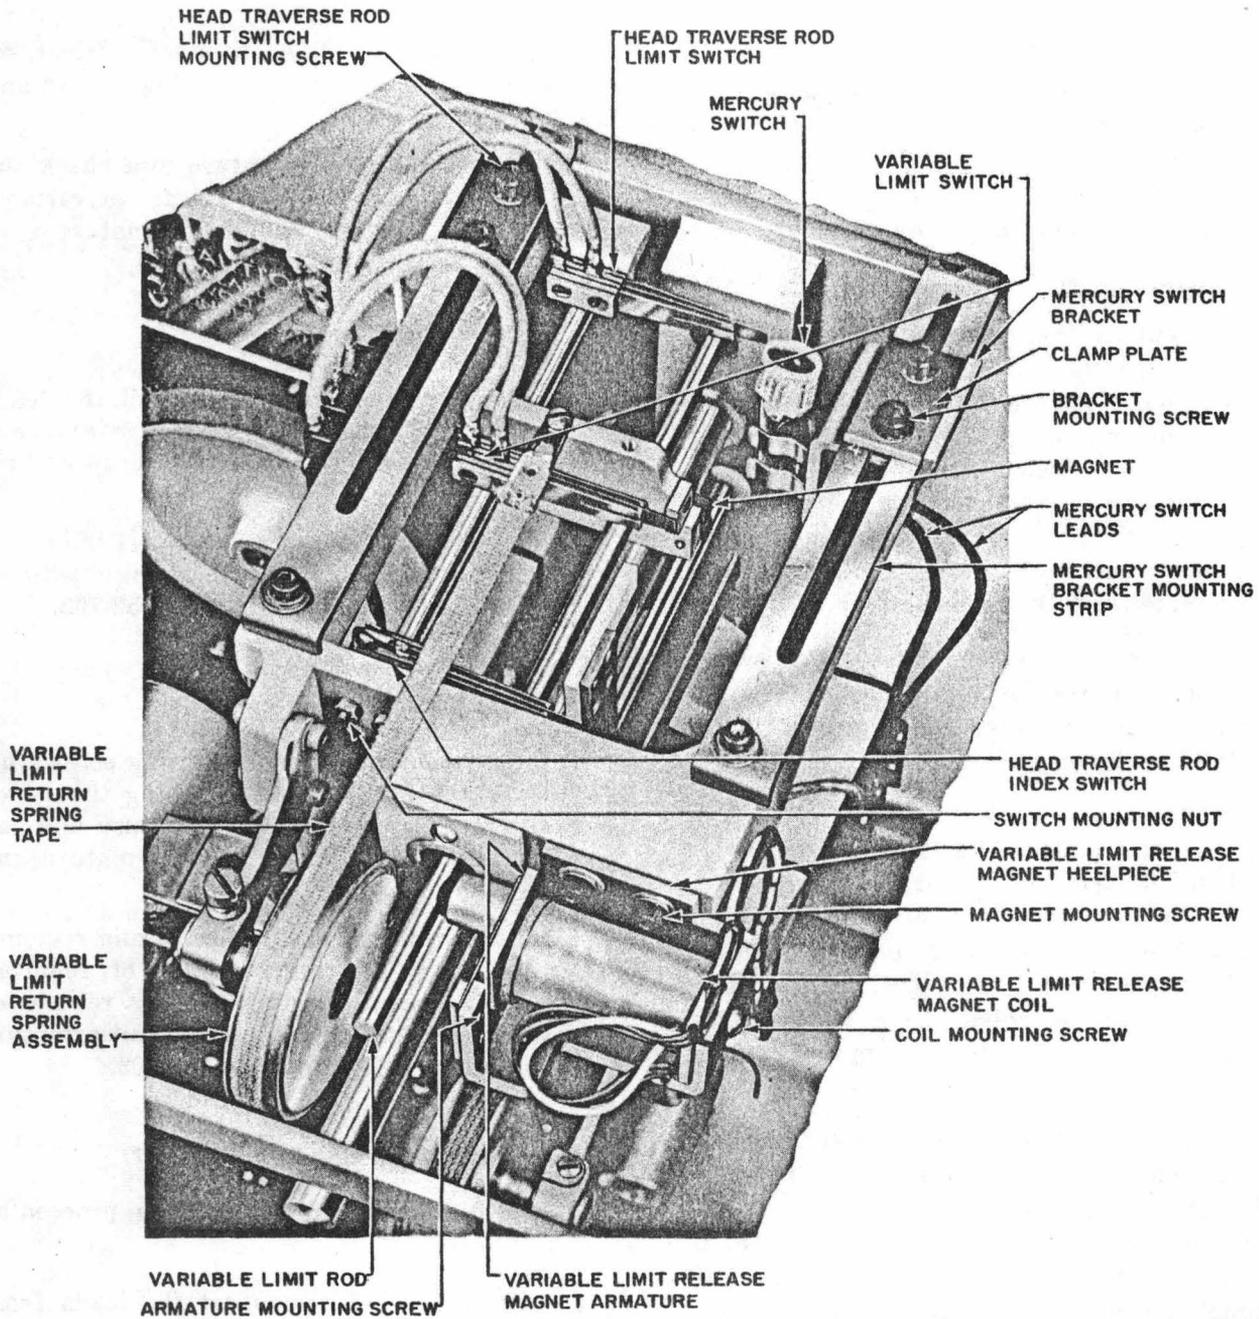

Fig. 17 - Recorder-Replicator Mechanism — Partial Top View
#### **Mercury Switch and Mounting Bracket (Fig. 17)**
#### **Variable Limit Release Magnet Parts (Fig. 17)**
#### **Head Traverse Rod Index Switch (Fig. 17)**
**Variable Limit Switch (Fig. 17)**
(1) Disconnect the leads from the contact spring terminals. If necessary to gain access to the spring pile-up assembly screws, manually operate the variable limit release magnet, move the switch to a position where the screws are accessible, and release the magnet. In some cases, it may be necessary to loosen the head traverse rod limit switch mounting screws with the R-2671 wrench and move the limit switch. Remove the spring pile-up assembly screws using the No. 206 offset screwdriver and remove the pile-up.
(2) Substitute new parts as required. Remount the parts in reverse order of removal, making sure that the contacts are in alignment. Connect the leads. If the head traverse rod limit switch was moved, reposition it in accordance with Section 034-353-701.
**Head Traverse Rod Limit Switch (Fig. 17)**